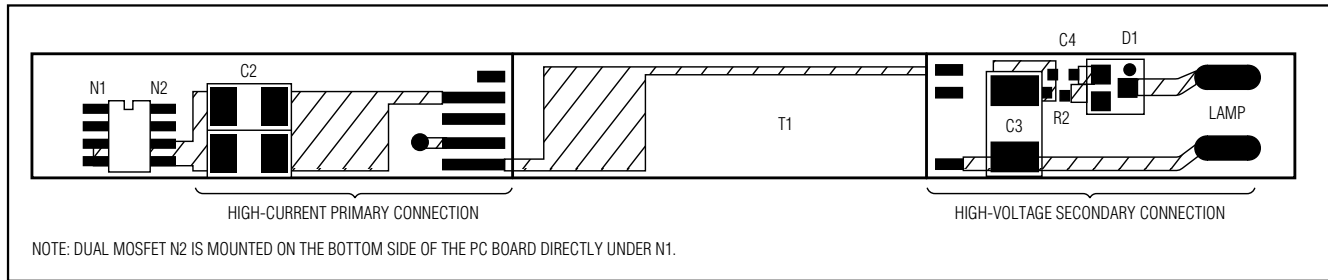

Figure 13. Layout Example
Careful PC board layout is critical to achieve low switching losses and clean, stable operation. The high voltage and switching power stages require particular attention (Figure 13). The high-voltage sections of the layout need to be well separated from the control circuit. Most layouts are constrained to long narrow PC boards, so this separation occurs naturally. Follow these guidelines for good PC board layout:
- 8) The traces to the capacitive voltage-divider on the transformer's secondary need to be widely separated to prevent arcing. Moving these traces to opposite sides of the board can be beneficial in some cases (Figure 13).